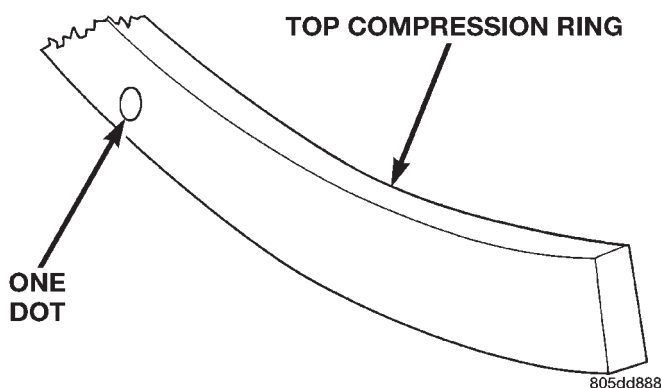

Fig. 9 Top Compression Ring Identification
(5) Install the oil control rings according to instructions in the package. It is not necessary to use a tool to install the upper and lower rails. Insert oil rail spacer first, then side rails.
(6) The two compression rings are different and cannot be interchanged. The TOP compression ring can be identified by 1 dot on the top surface of the ring (Fig. 9).
(9) The top compression ring has a dot located on the top surface (Fig. 9).